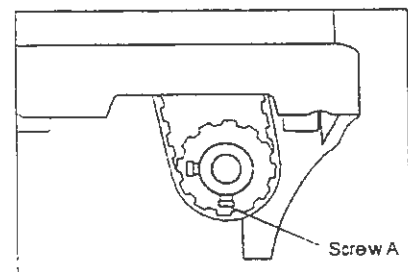

Fig.20
29. Install synchronous belt(Fig.20)